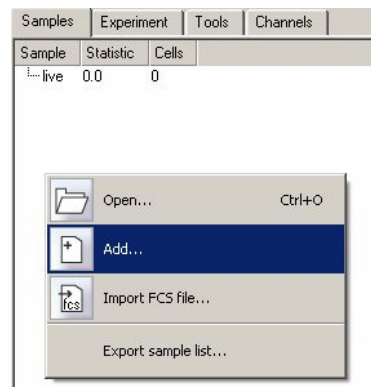

Figure 7.3 Adding data files from any location by navigating Windows file structure.
- 2) Right click within **Sample** tab and select **Add** (see Figure 7.3).